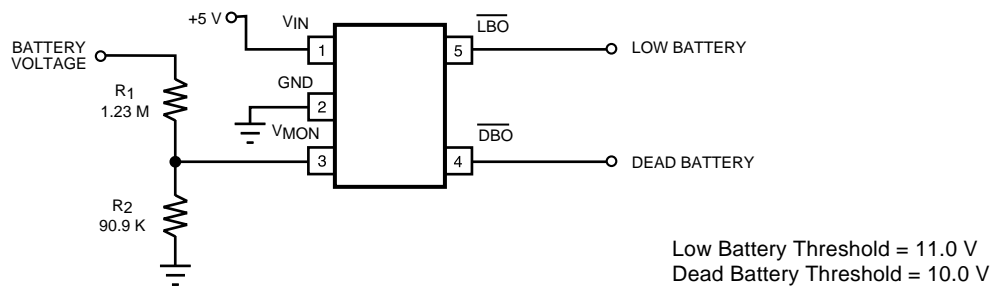

**FIGURE 5**
The resistor divider consisting of  $R_1/R_2$  can be scaled downward by a factor scale factor (K) to utilize smaller resistor values  $K \times R_1$  and  $K \times R_2$  ( $K < 1$ ). By adding an additional series resistor, which can be dependent upon the scale factor (K) and the resistor values comprising the divider, the  $V_{MON}$  pin will effectively see the same voltage source and drive impedance as illustrated in Figure 4. The three-resistor attenuator is illustrated below in Figure 5.